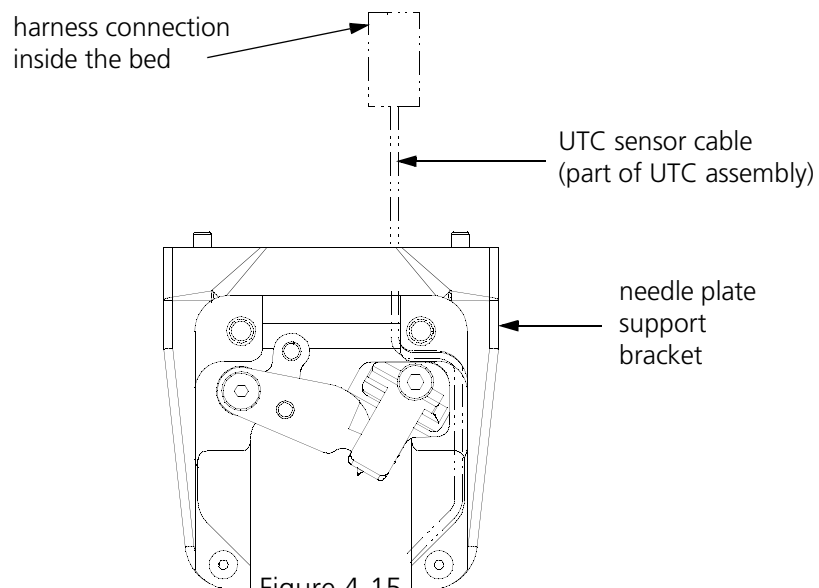

Figure 4-15
4. Disconnect the sensor cable from the harness inside the bed and remove the cable through the slot in the needle plate bracket where the connecting link was located (see Figure 4-15).
6. Connect the sensor cable from the new UTC assembly to the harness inside the bed as indicated in Figure 4-15.